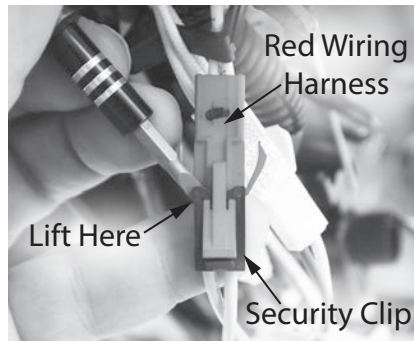

Figure 196 - Red wiring harness clip removal
- 9 Trace the yellow wires from the condensate trap to the red wiring harness and disconnect them. See Figure 196.